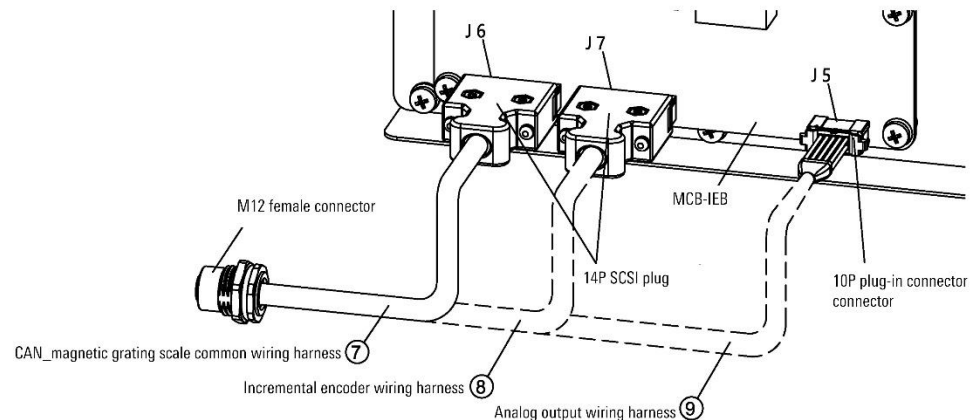

Figure 18-42 Multi-function communication module connection diagram
- Step5. As shown in Figure 18-42, according to actual needs, the CAN\_magnetic grating scale common wiring harness or incremental encoder wiring harness or analog output wiring harness which is connected to the corresponding interface on MCB-IEB CAN\_magnetic grating scale common wiring harness connected to J6 interface, incremental encoder wiring harness connected to J7 interface, analog output wiring harness to J5 interface), install the M12 female connector at the other end on the M12 connector mounting board.